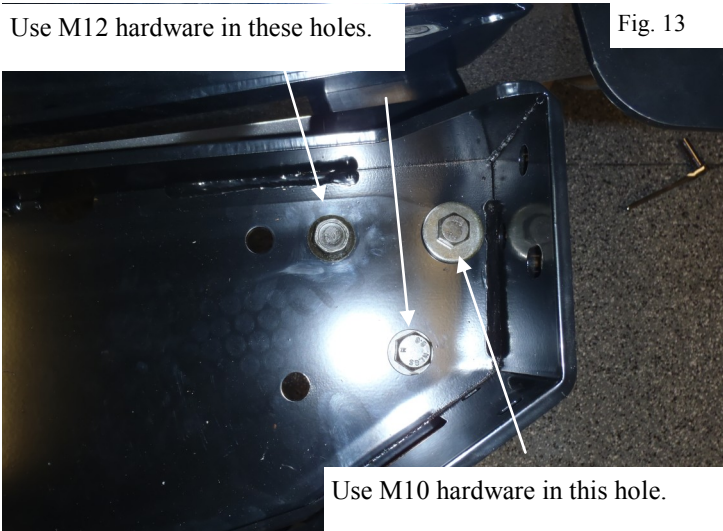

Fig. 13
8. Loosely install the Winch Tray to the mounting brackets using the supplied M10 and M12 hardware (Figure 13).